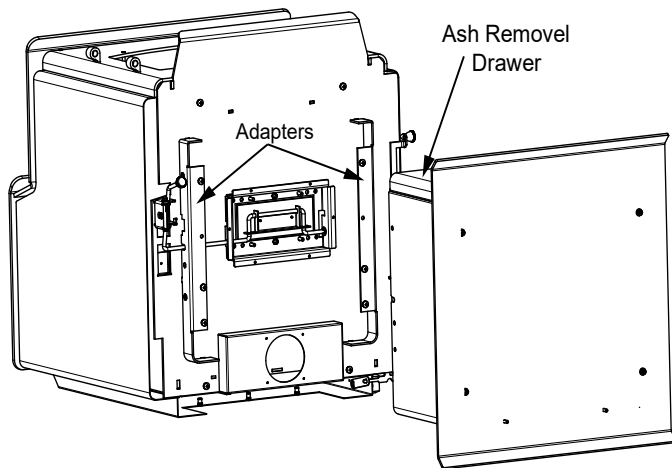

Figure 23.1
2. Slide pedestal over adapter on bottom of appliance and secure with bolts from heat shield (**Figure 23.1 on page 23**).